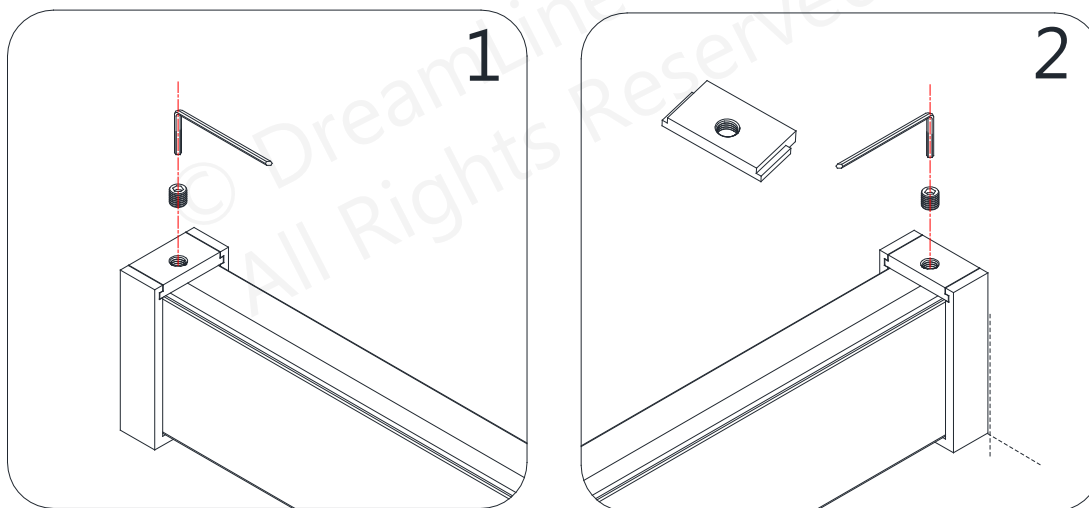

Fig 18
18. Slide the **Upper Guide Rail (#01)** into both **Guide Rail Bracket Assemblies (#02)**. Install both of the **Guide Rail Bracket Assembly (#02)** tops and secure with the **set screws**. **(Fig 18)**